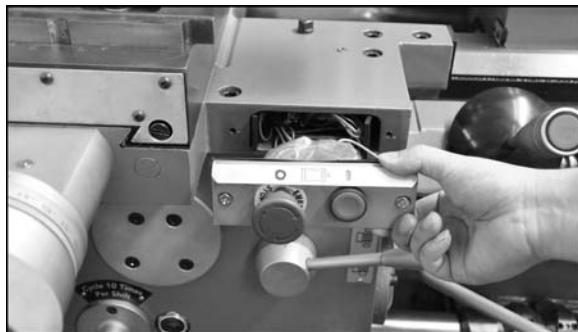

Figure 18 – Rapid feed motor wire access
2. **Rapid Feed Motor:** Remove the control panel on the saddle (Figure 18) to rewire the rapid feed motor. Change the leads according to the wiring diagram in sect. 17.0. **It is not necessary to pull out the rapid feed motor for voltage conversion.**